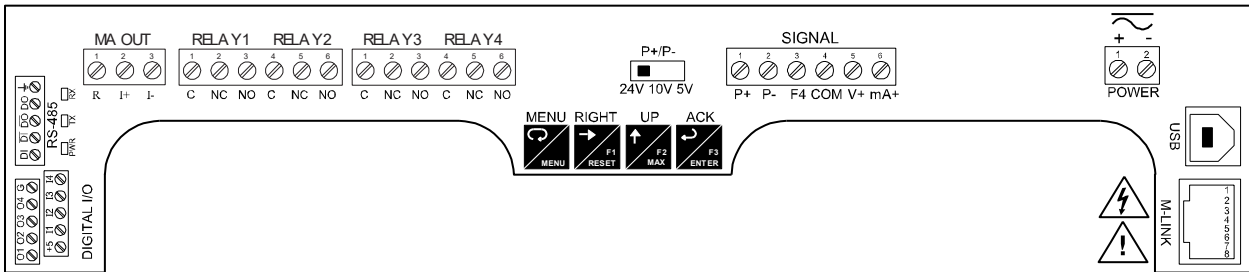

Figure 7. Connector Labeling for Fully Loaded PD2-6001
Power connections are made to a two-terminal connector labeled POWER on Figure 7 on page 12. The meter will operate regardless of DC polarity connection. The + and - symbols are only a suggested wiring convention.
Signal connections are made to a six-terminal connector labeled SIGNAL on Figure 7. The COM (common) terminal is the return for the 4-20 mA and the ± 10 V input signals.
Serial communications connection can be made to the onboard RS485 terminal block or USB connector shown in Figure 7. If RS232 is required, an RS485 to RS232 adapter (PDA7485) may be used. See Ordering Information on page 4 for additional information.
Relay connections are made to two six-terminal connectors labeled RELAY1 – RELAY4 on Figure 7. Each relay's C terminal is common only to the normally open (NO) and normally closed (NC) contacts of the corresponding relay. The relays' C terminals should not be confused with the COM (common) terminal of the INPUT SIGNAL connector.